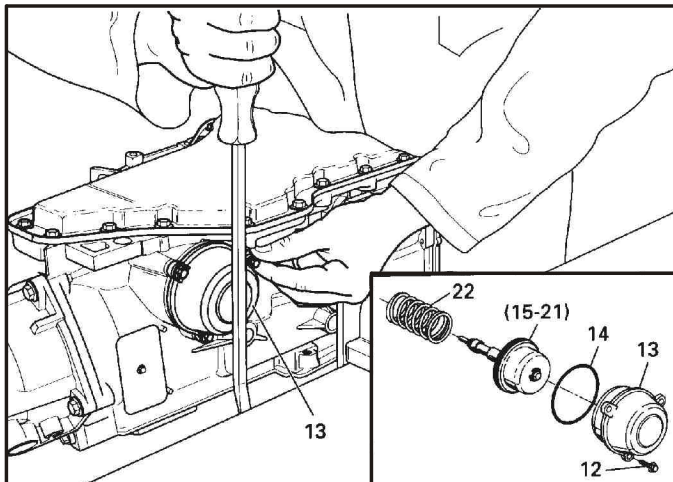

Figure 202
18. Install the forward servo piston and apply pin assembly into the forward servo cover. Refer to Figure 202.
19. Install new servo cover seal on the forward servo cover and install the assembly into the transaxle case (See Figure 202).
20. Pry servo cover in with large screwdriver, as shown in Figure 202, and start the three servo cover retaining bolts, **by hand**.